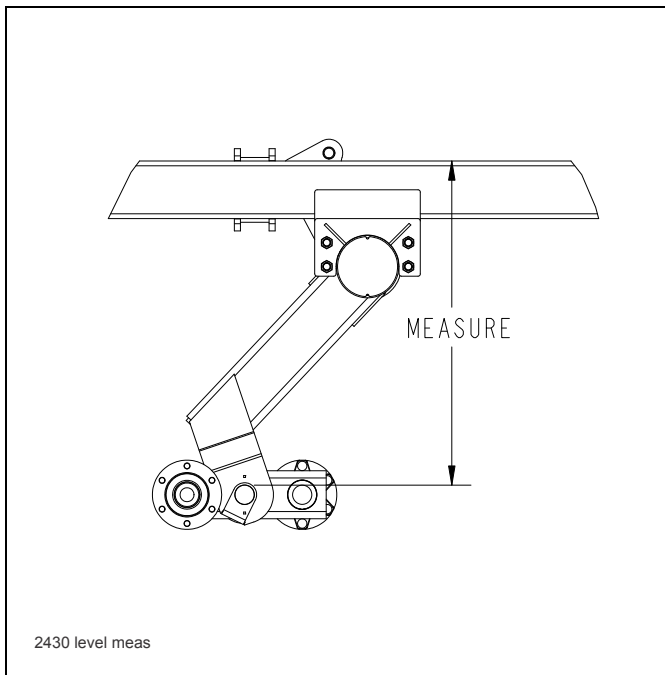

Figure 4-9: Leveling from Side to Side
2. To level the unit, verify that all tires are properly inflated. With the implement unfolded, raise the unit to fully extend the lift cylinders. Continue to hold the tractor lever 30-60 seconds to insure that the cylinders are fully extended and the rephasing lift system has been purged of air. Lower the unit until the ripper points are approximately 1" off the ground. On the center frame, measure the distance from the walking beam spindle to the top side of the frame (See Figure 4-9.)